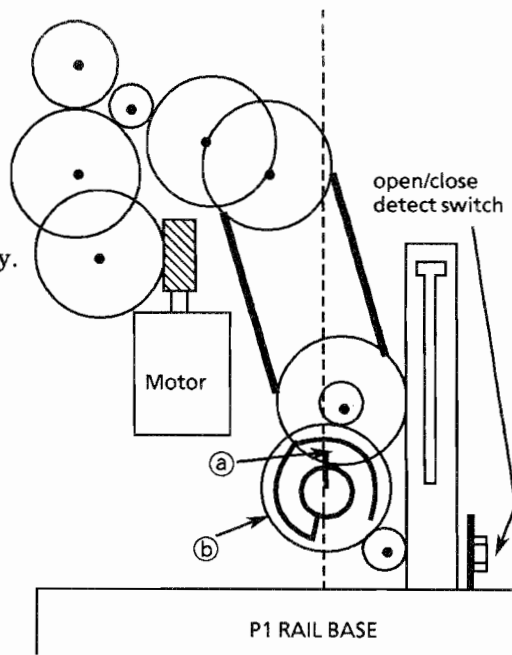

Fig.10
2. Rotate the gear ② clockwise a little.
5. Remove the screw fixing the open/close sw by inserting a thin driver from ④ hole to remove the Front door indicator ass'y.
6. Pull the P1 RAIL BASE by pulling up the hook ① slightly.
- ※ Install gear ③ so that part ① shown in fig.10 is perpendicular to the P1 rail base.